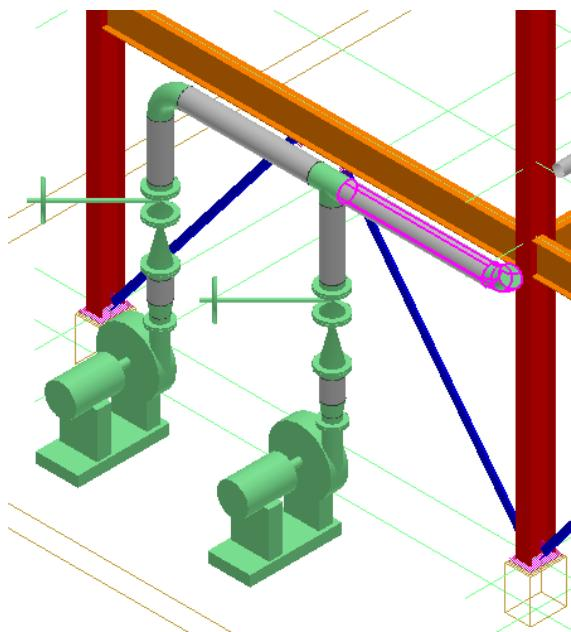

Figure 30: Selected Pipe Parts
32. Now select the remaining pipe parts belonging to **1001-P**, as shown in Figure 30.